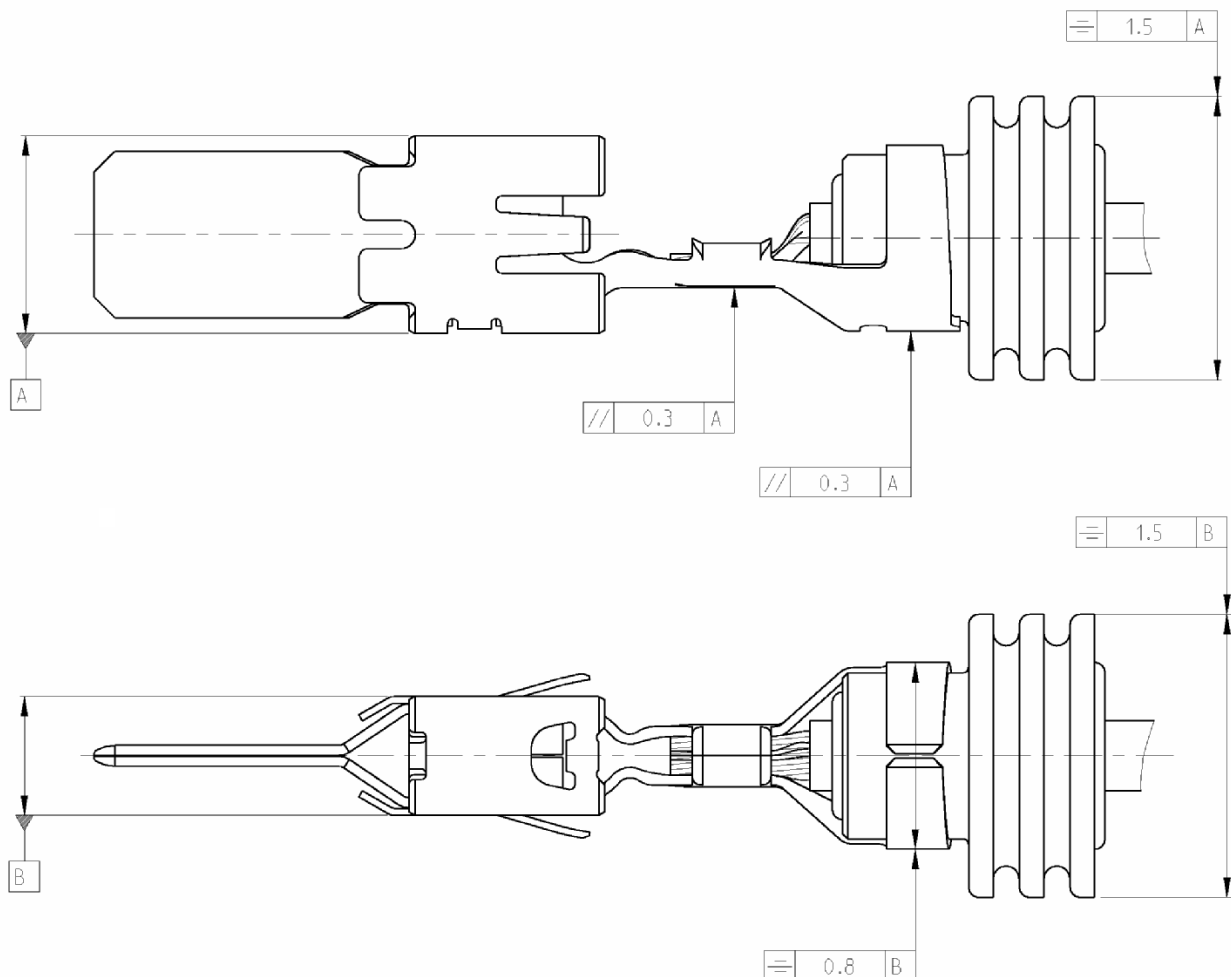

Figure 5
**B. Terminals with Crimp for Single Wire Seal (see Figure 5)**